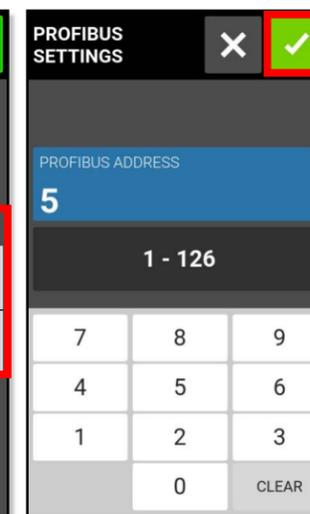

Figure 6
4. Once a field is selected enter the PROFIBUS SETTINGS screen (see Figure 6 below). Enter the Profibus address as a value in between 1 and 126 on the touchscreen keypad. (The default Profibus address is 7.)